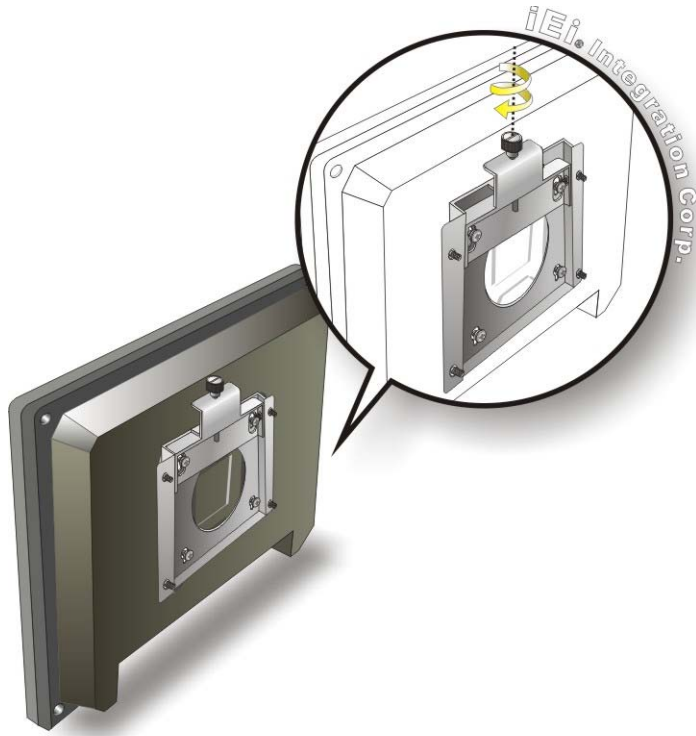

Figure 4-12: Secure the Panel PC
Step 9: Secure the panel PC by fastening the retention screw of the wall-mounting bracket. (**Figure 4-12**).